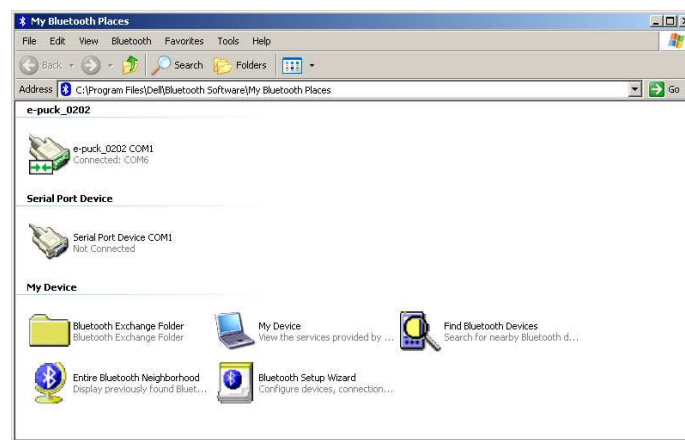

Figure 12: Activate the bluetooth connection by double-clicking on the icon corresponding to the connection.
1. Start the Tiny Bootloader program. You should get the window of figure 12.